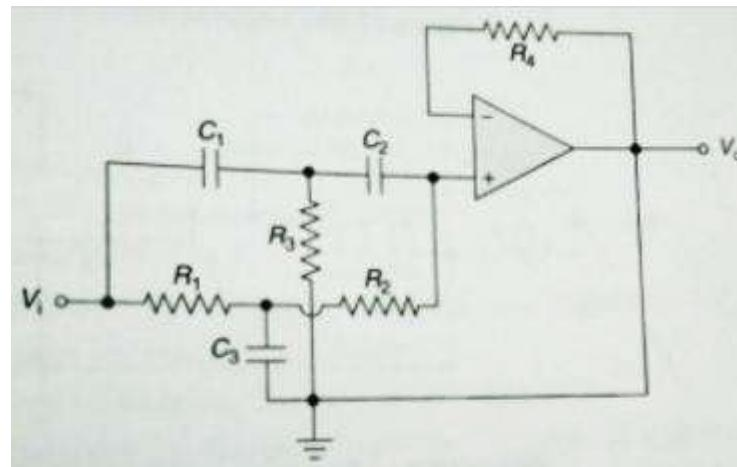

Figure 17.62: Example 17.16
1. Figure 17.62 shows the circuit.